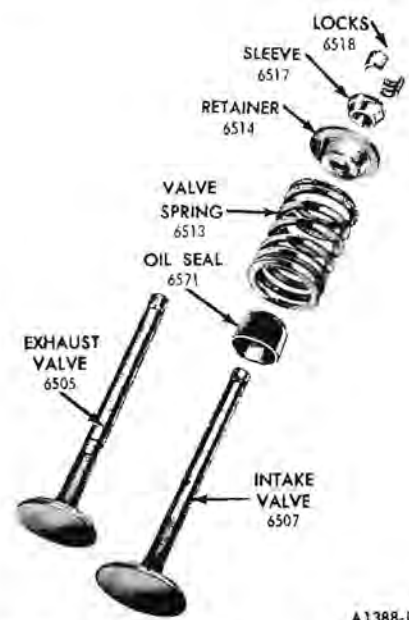

FIG. 22—Typical Valve Assembly
2. Install each valve (Fig. 22) in the valve guide from which it was removed or to which it was fitted. Install a new stem seal on the valve.